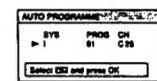

Fig. 4.
- Select **»Auto Programme«** with **△** or **▽** and press **OK**. The AUTO PROGRAMME menu appears. (See Fig. 4.)